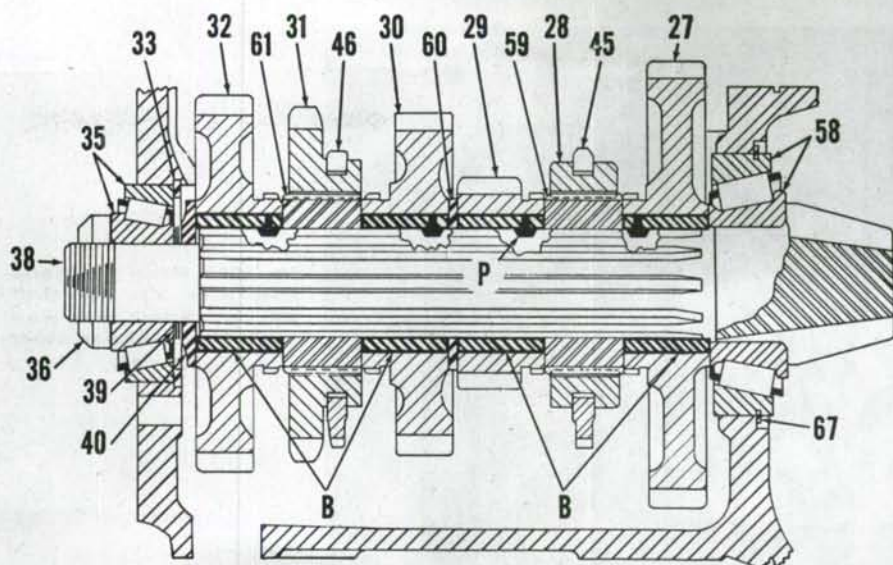

Fig. AC93—Model CA transmission bevel pinion shaft, gears, and related parts assembly. Shims (39) control adjustment of bearings.
210. Whenever the bevel pinion shaft, gears, and/or bushings are renewed, it will be advisable to first make a trial assembly on the bench of all the parts to check for free rotation of gears (32, 30, 29, & 27—Fig. AC93). Tighten retaining nuts to 50 ft. lbs. If any gear fails to freely rotate when bevel pinion shaft is held stationary, it is an indication that the gear hub is wider than the bushing (B) on which it rotates. To provide gear side clearance for free rotation, use a fine grade of emery cloth on a flat surface to decrease the width (flat sides) of the gear.
Reinstall bevel pinion shaft in housing, and working through transmission cover opening, install gears, thrust washers, and shims, as shown in Fig. AC93.